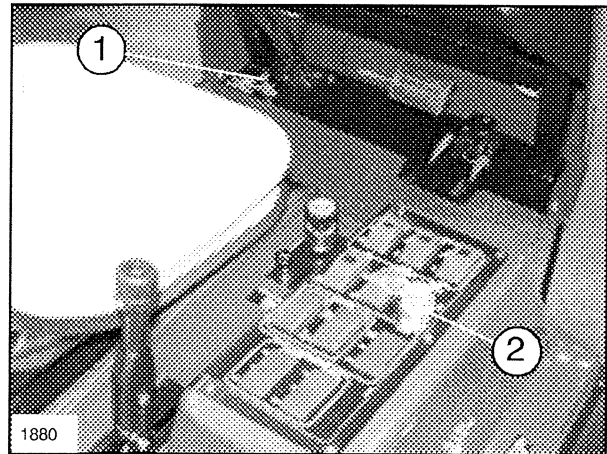

FIG. 2
## MASTER ON/OFF FOOT SWITCH (FIG 2):
**5. MASTER ON/OFF FOOT SWITCH (ON FLOORBOARD):** The Foot Switch works in series with Individual Boom ON/OFF Switches. Activating the Foot Switch will turn all boom sections off. Activating again will turn on all sections that are selected with the individual switches. See FIG. 2.